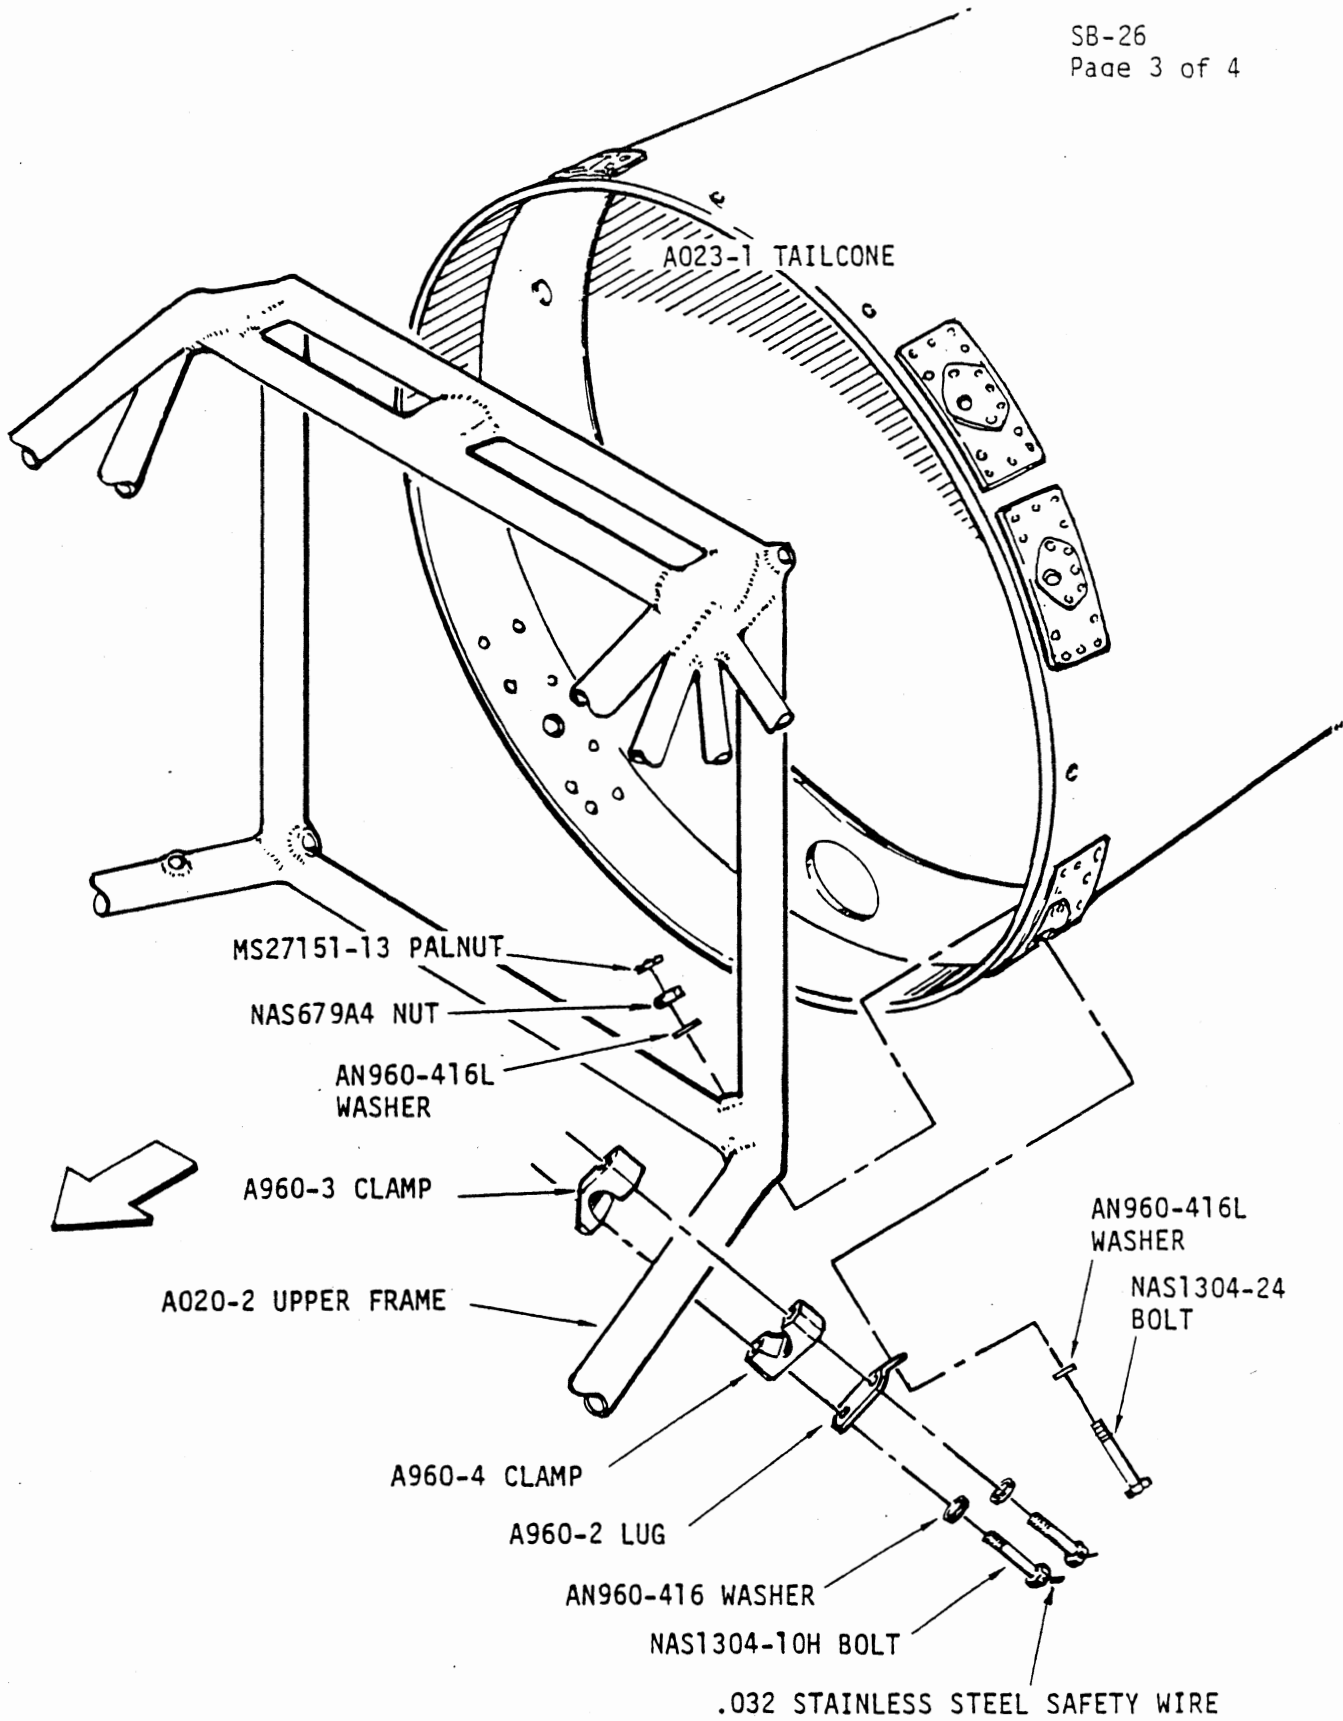

FIGURE 1.
2. Install the A960-1 clamp assembly per Figure 1.
5. Reassemble the A960-1 clamp to the frame per Figure 1. Torque all nuts to 100 in.-lbs plus nut drap per Section 1.300 of the Robinson Maintenance Manual. (No nut drag on the NAS1304-10H bolts).